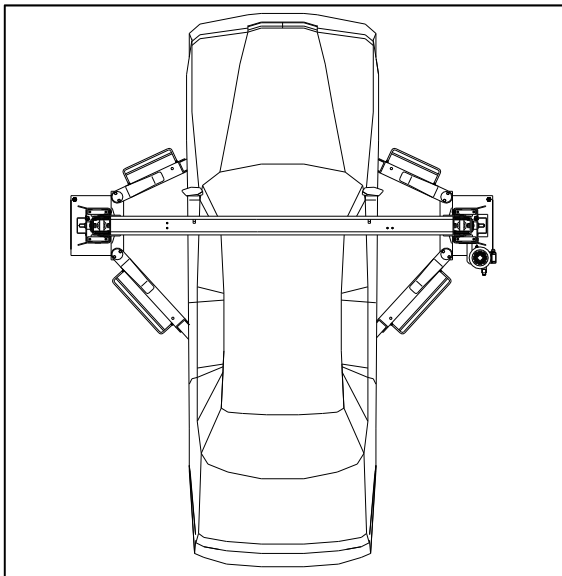

Fig. 12 Correctly Loaded Vehicle
It is important to position the vehicle on the lift so that the weight is correctly distributed on the arms. **(Fig. 12)** For person and equipment safety, it is important that:
- ◆ The vehicle is correctly positioned. **(Fig. 12)**